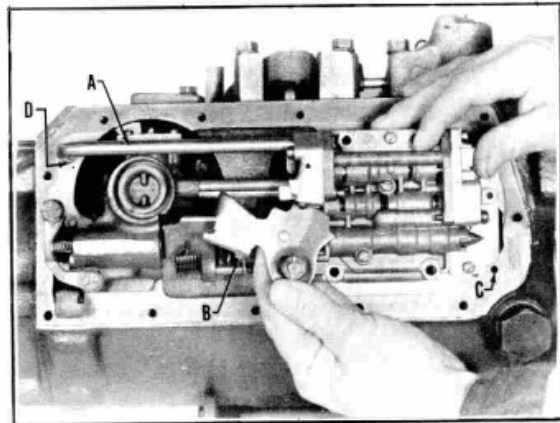

Figure 36
- b) Apply air to the pressure regulator reverse oil passage (C) Figure 36 on the outside of the case while blocking the opening in the pressure regulator hole to be certain the passage is not leaking. Also check the passage for an obstruction.
- b) Slide the valve body forward far enough to allow removal of the reverse clutch pipe (A), Figure 36.